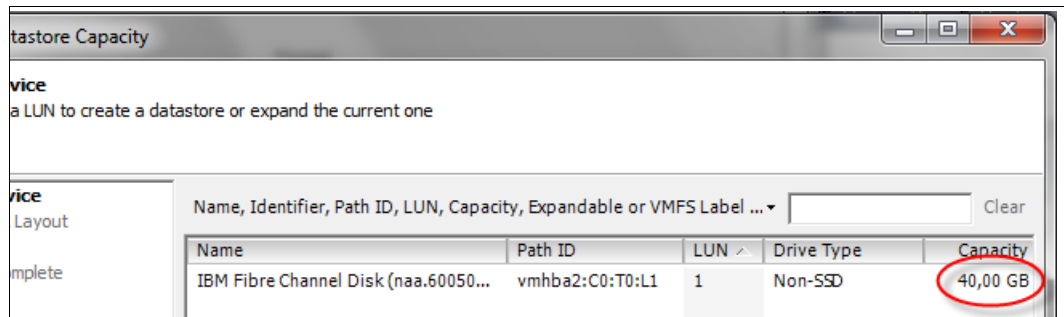

Figure 7-21 Select LUN
- d. Select the LUN (notice the new size as shown in Figure 7-21).